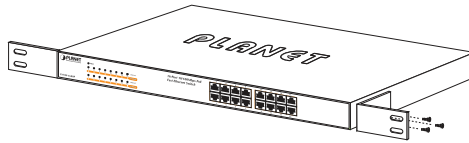

Figure 3-2: Attaching the Brackets to the 802.3at PoE+ Switch.
Step2: Attach a rack-mount bracket to each side of the 802.3at PoE+ Switch with supplied screws attached to the package. Figure 3-2 shows how to attach brackets to one side of the 802.3at PoE+ Switch.